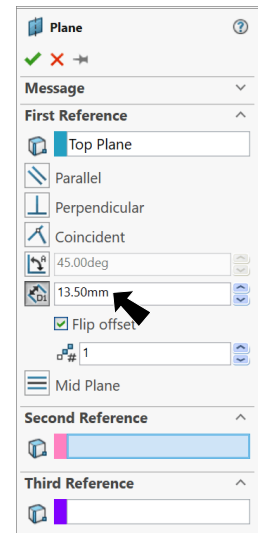

Fig. 17
Step 3. In the Plane Property Manager set: under First Reference, **Fig. 17**